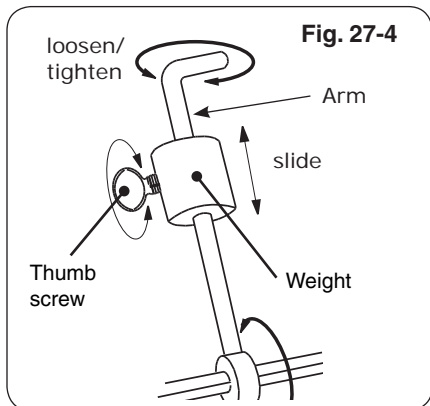

Fig. 27-4
9. Slide the counterbalance weight up or down the arm until the rod rotates most evenly then tighten thumb screw (Fig. 27-4 and Fig. 27-5).